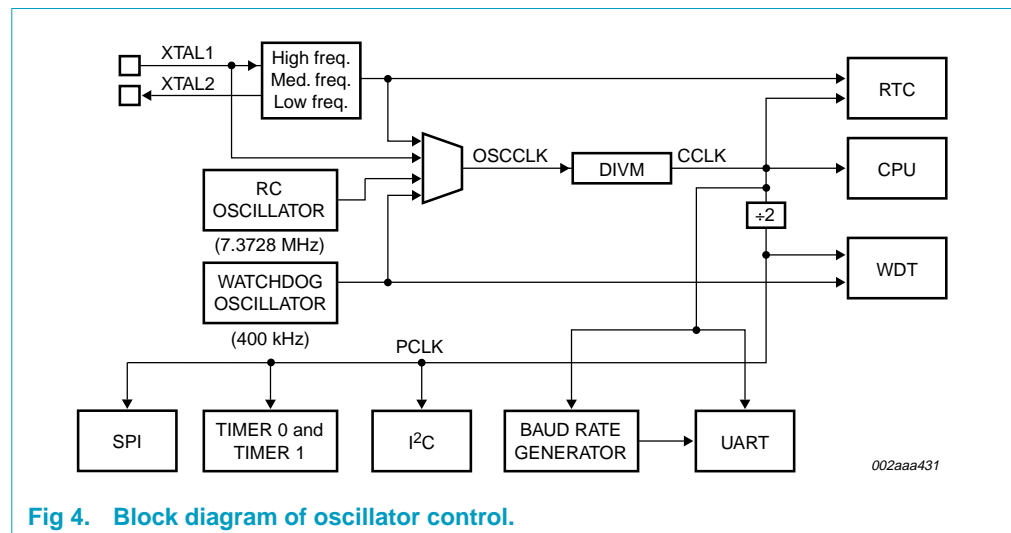

Fig 4. Block diagram of oscillator control.
**OSCCLK** — Input to the DIVM clock divider. OSCCLK is selected from one of four clock sources (see Figure 4) and can also be optionally divided to a slower frequency (see Section 8.7 "CPU CLOCK \(CCLK\) modification: DIVM register").